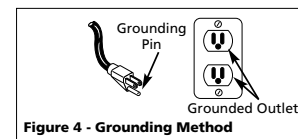

Figure 4 - Grounding Method
1. This product is for use on a nominal 120 volt circuit and has a grounding plug that looks like the plug illustrated in Fig. 4. Make sure the product is connected to an outlet having the same configuration as the plug. This product must be grounded. In the event of an electrical short circuit, grounding reduces risk of electrical shock by providing an escape wire for electric current. This product is equipped with a cord having a grounding wire with an appropriate